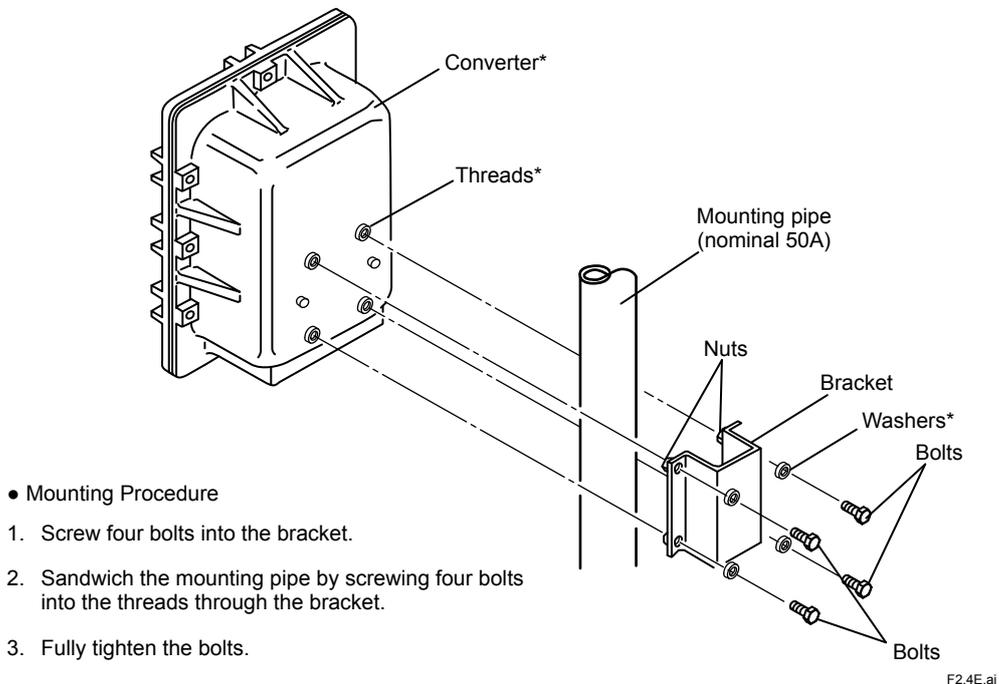

Figure 2.9 Pipe Mounting
- (1) Provide a pipe (nominal 50A, OD of 60.5 mm) for mounting the converter vertically with sufficient strength.
- (2) Mount the converter to a pipe. Fix the converter rigidly in the procedure shown in Figure 2.9.